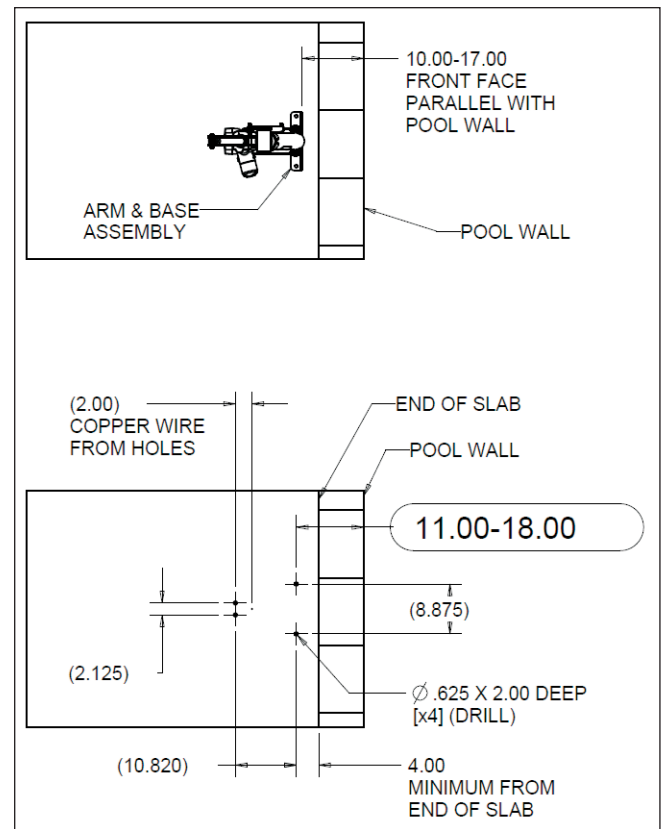

Fig 3: Lift Location and Hole Specifications
- 4 To determine the proper location to install the lift, use Fig. 3 and the Arm & Base assembly as a template. Make sure that the lift is an appropriate distance away from the pool wall and that all holes to be drilled are at least 4" away from any edge of the deck or slab. **DO NOT** lift the assembly from the actuator.